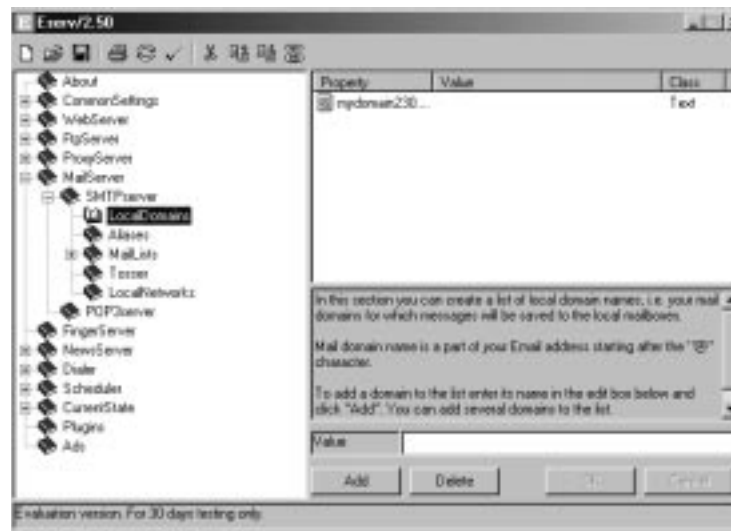

Figure 3-12. Eserv Application Window - Local Domains
1. The left side of the Eserv window has a list of purple books. Double-click MailServer, SMTPserver, and LocalDomains. The right side of the window lists the local domains that have been defined. See Figure 3-12.